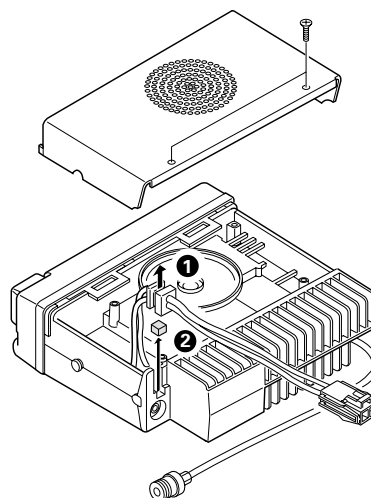
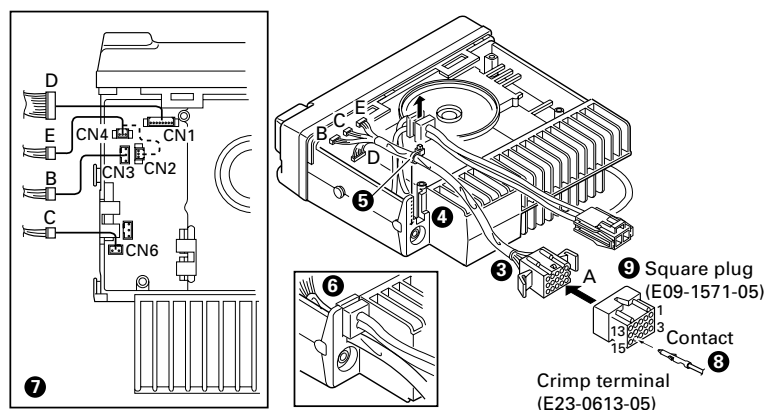

Fig. 1
Fig. 2
1. Remove the upper and lower half of the transceiver case, and lift the DC cord bushing (1) from the chassis.
2. Remove the pad as shown in Figure 1 (2).
3. Insert the KCT-19 cable (3) into the chassis (4).
- The wire harness band (5) must be inside the chassis.
4. Replace the DC cord bushing (6).
5. Connect the KCT-19 to the TX-RX unit (A/2) as shown in Figure 2 (7).
6. Connect the KCT-19 to the external accessory by inserting the crimp terminal (8) into the square plug (9), both of which are supplied with the KCT-19.